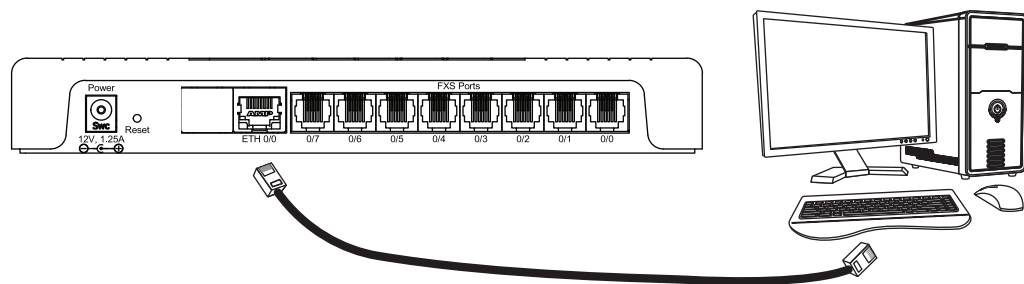

Figure 15. Connecting the SmartNode to a laptop PC
1. The SmartNode device is connected to a laptop PC (see figure 15) that is configured with a fixed IP in the same range as the SmartNode device’s IP address (for instance: PC’s IP address; 192.168.200.20; mask: 255.255.255.0).